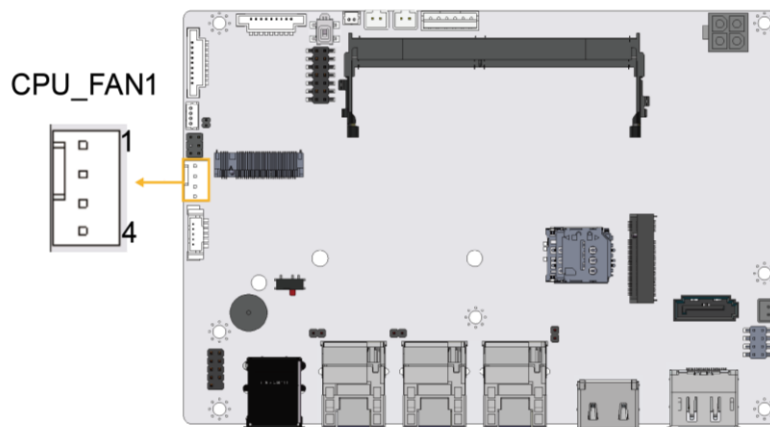

Figure 4-3: Fan Connector Location
- CN Location:** See **Figure 4-3**